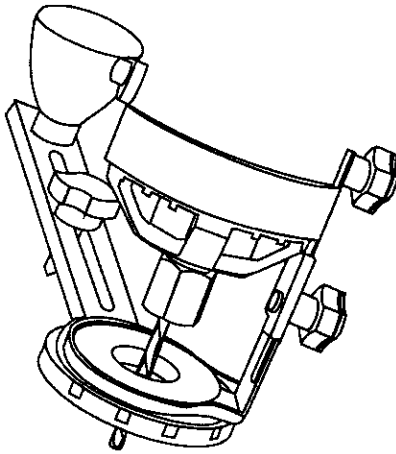

Fig. 13
4. Rest the edge of the sole plate on the workpiece with the bit at an angle of about 45° (see Fig. 13). Insert the circle cutter pivot point into the pilot hole drilled at the center of the circle.